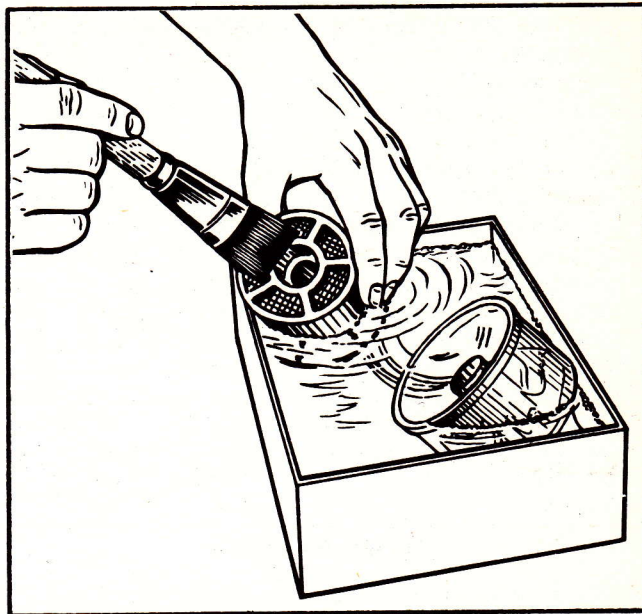

Figure No. 14
- Flush the filter mesh, in the upper assembly with kerosene, gasoline or some other effective solvent. (See Figure No. 14.)